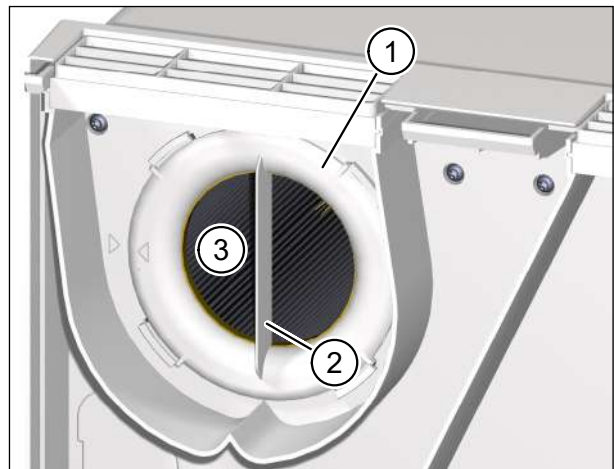

Fig. 16: Removing the extract air filter
- ▶ Turn the filter ring (item 1 in Fig. 16) using the hand grip (item 2 in Fig. 16) anti-clockwise until the filter ring is released from the retainers.
- ▶ Pull the filter ring together with the extract air filter (item 3 in Fig. 16) out of the ventilation unit.
- ▶ Check the position of the filter ring. The hand grip must be vertical and the arrow on the filter ring must line up with the arrow for the locking position (see Fig. 16 on page 33).